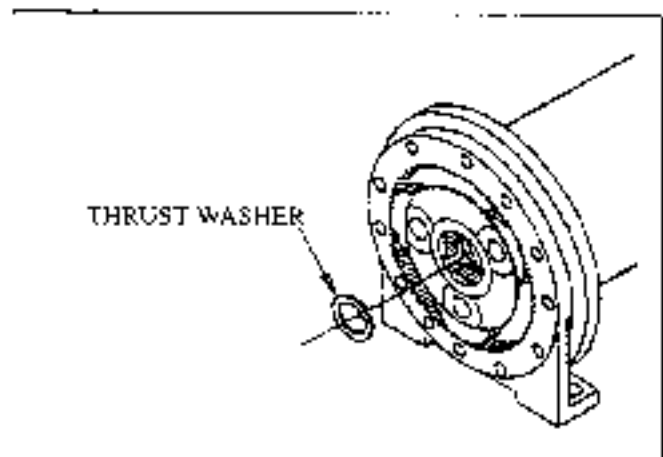

Figure 17
- (16) Remove the thrust washer and the sprocket retaining ring. See Figure 17.